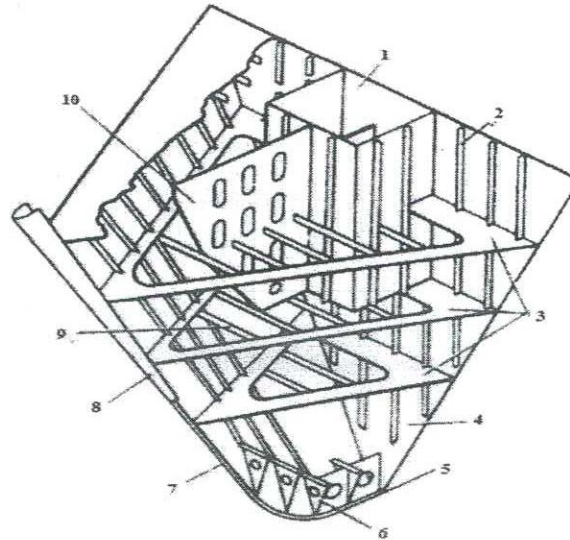

Figure Q6
- Q6 a) Identify the components from 1 to 9 marked on the Figure Q6 and explain their construction.